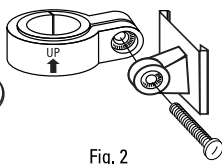

Fig. 2
1. Attach bracket to seatpost so that "UP" arrow is pointing up (Fig.2). Use supplied rubber shims as necessary to ensure a secure fit.